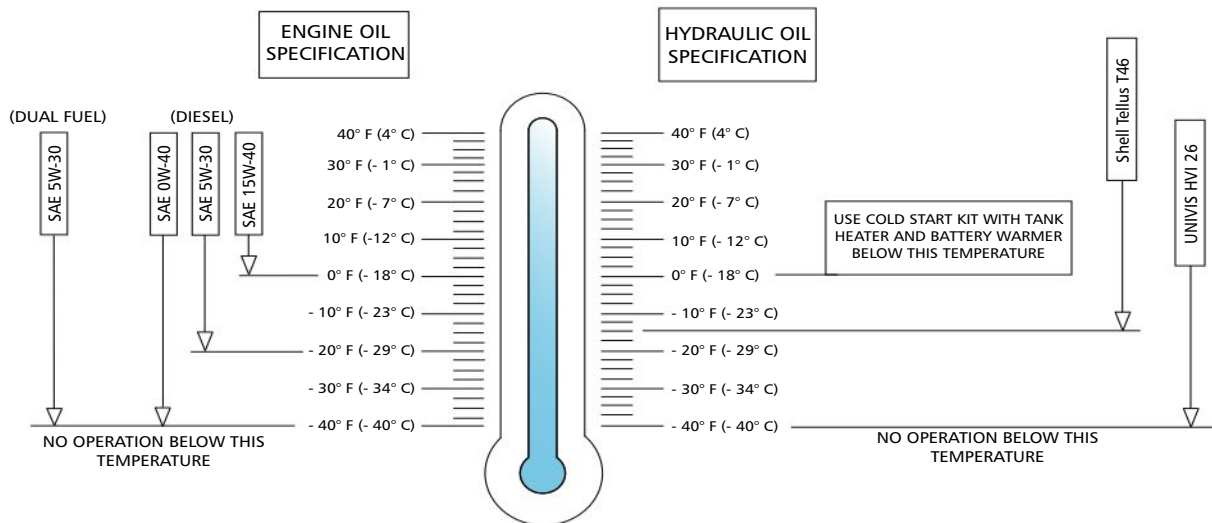

Figure 3-7. Cold Weather Operation Chart
- Refer to the cold weather operation chart (Figure 3-7) to assist in operating the aerial platform in cold weather conditions.